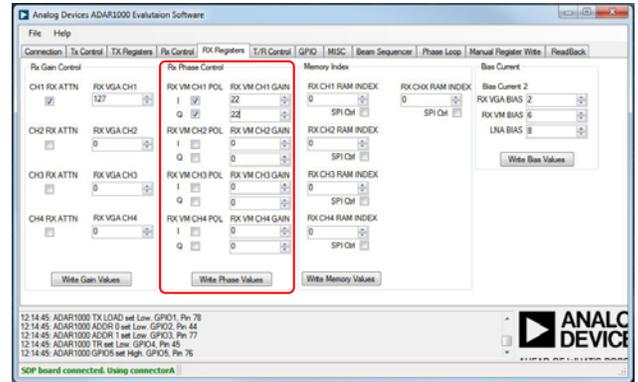

Figure 19. Setting Receive Channel 1 to Maximum Gain in Receive Phase Control with All Other Channels at Minimum Gain
1. Click the **RX Registers** tab (see Figure 19).